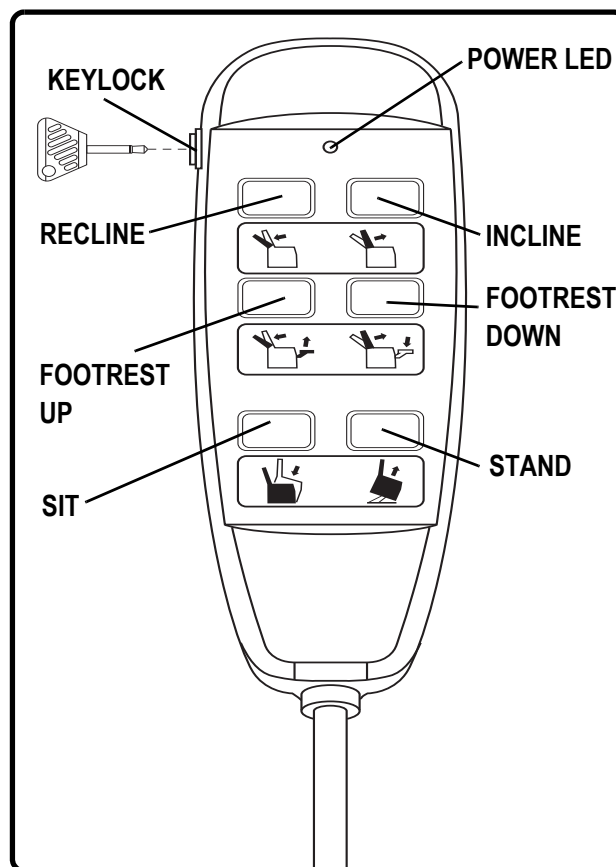

Figure 5.1 Hand Control
1. Press the FOOTREST UP button on the hand control until the footrest is sufficiently elevated from the ground (**Fig. 5.1**).
3. Press the FOOTREST DOWN button on the hand control until the lift chair is in an upright, seated position (**Fig. 5.1**).
5. Press the INCLINE button and elevate the lift chair to its highest position (**Fig. 5.1**). Plug the chair-back motor cable (labeled with a green-A tag) into the green-A slot of the controller box. Plug the chair base motor cable (labeled with a yellow-B tag) into the yellow-B slot of the controller box. The controller box is located underneath the lift chair.
6. Press the RECLINE button and return the chair to the upright, seated position before use (**Fig. 5.1**). Zip the chair-back fabric to the chair base.
The hand control is equipped with buttons that control the movement of the chair-back, chair base and footrest (Fig. 5.1).
Follow these steps to sit in your lift chair (Fig. 5.1):
Follow these steps to recline your lift chair from the seated position (Fig. 5.1):
Follow these steps to stand up from your lift chair (Fig. 5.1):
Follow these steps to raise or lower the footrest while in the seated or reclined position (Fig. 5.1):
Follow these steps to stand up from your lift chair from the seated position (Fig. 5.1):
Follow these steps to recline your lift chair to the “Trendelenburg” position (Fig. 5.1):
Follow these steps to recline your lift chair to the “zero gravity” position (Fig. 5.1):
Your hand control may be equipped with a keylock feature (**Fig 5.1**). The keylock feature is intended to disable the functions of the hand control to prevent unintended movement when the lift chair is occupied, but stationary, as well as when the lift chair is left unattended. The key should only be inserted into the hand control when the position of the lift chair needs to be adjusted by the user.
**Follow these steps to operate the keylock (Fig. 5.1):**